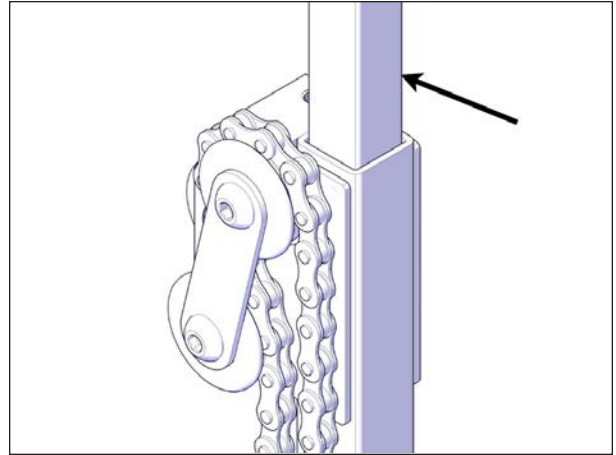

FIGURE 78: SLIDING PARTS GREASING
7. Spray grease on all the sliding parts and mechanical components of all four jacks, see Figure 78.